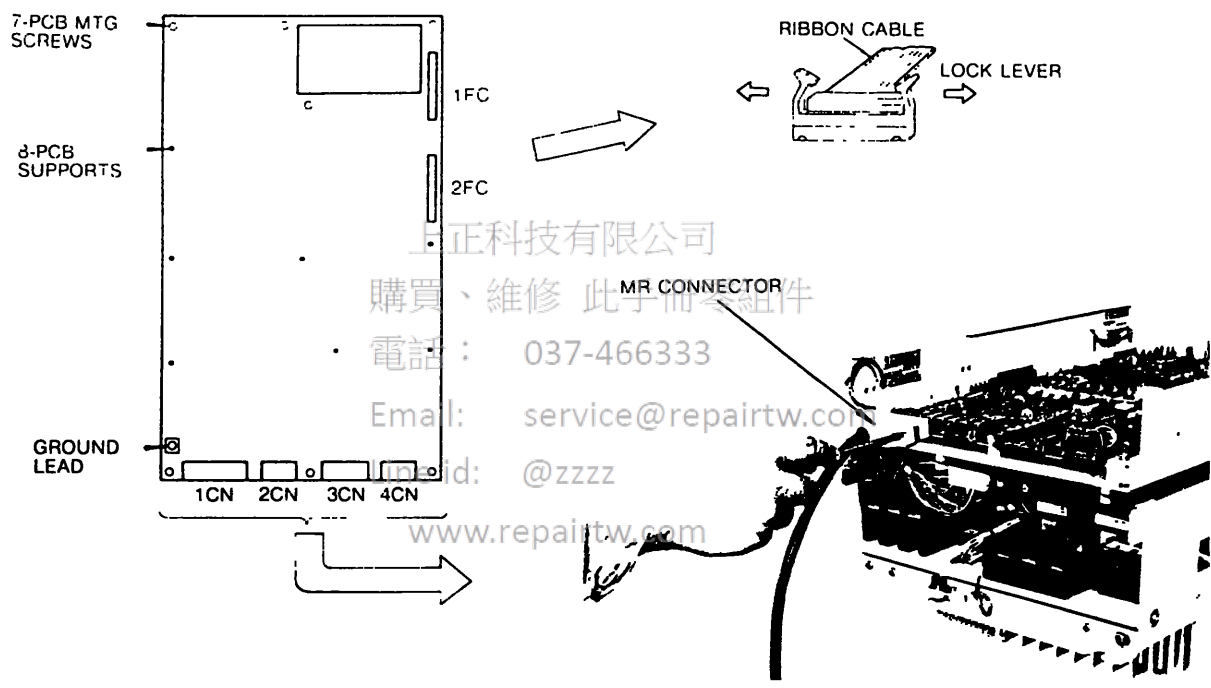

Fig 9.2 Removal of Control Circuit Board
(1) Removal Procedures (Fig. 9.2)